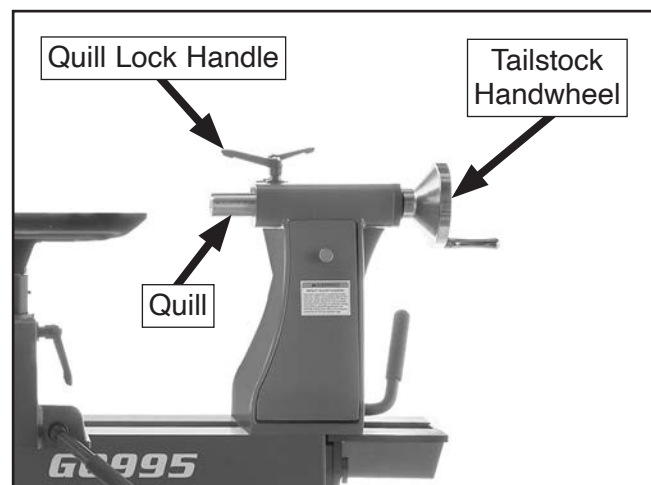

Figure 59. Location of tailstock components.
1. Loosen quill lock handle and rotate tailstock handwheel until quill extends about 1", as shown in **Figure 59**.